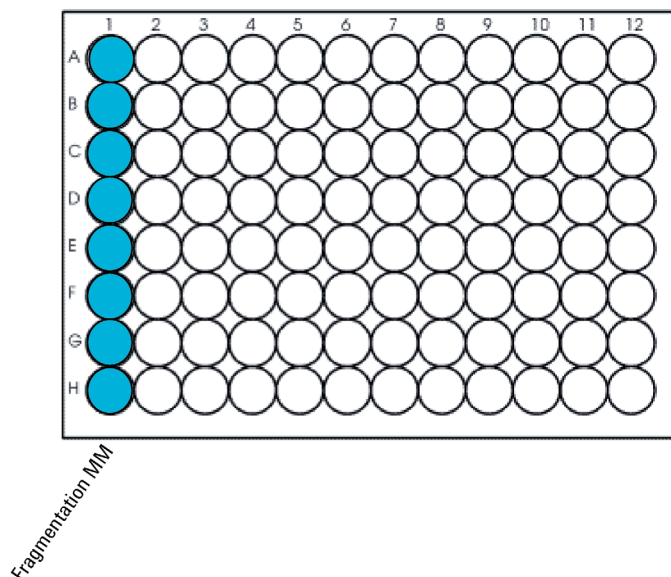

Figure 3 Configuration of the **Agilent Deep Well** source plate for protocol Fragmentation_XT_HS2_RNA
- 8 Prepare the **Agilent Deep Well** source plate for the run as indicated in **Table 21**. Add the indicated volume of 2X Priming Buffer to all wells of the indicated column of the Agilent Deep Well plate. Keep the 2X Priming Buffer on ice during the aliquoting steps. The final configuration of the master mix source plate is shown in **Figure 3**.